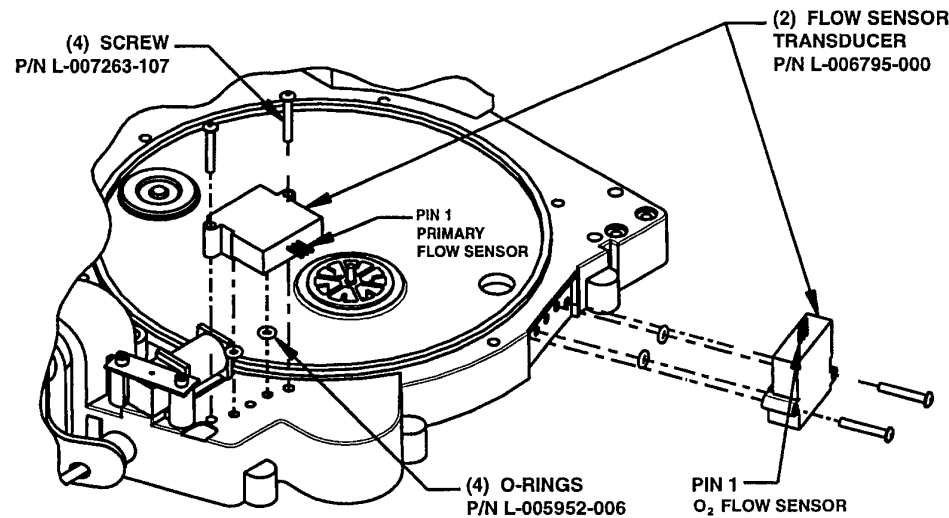

FIGURE 4-20.
1. Install each of 4 O-rings (P/N L-005952-006) so that 1 fits into each port of the 2-flow sensor transducers (P/N L-006795-000). See Figure 4-20.
2. Orient and install both flow sensor transducers. See Figure 4-20.
5. Install the flow sensor cables onto the flow sensors, if necessary. The primary flow sensor cable (P/N L-007819-000) will have a white lead wire that denotes pin . The O2 flow sensor cable will have either a white lead wire (P/N L-007819-000) or an orange lead wire (cable P/N Y-103010-00A) that denotes pin 1. For matching pin 1 on the flow sensors, see Figure 4-20.